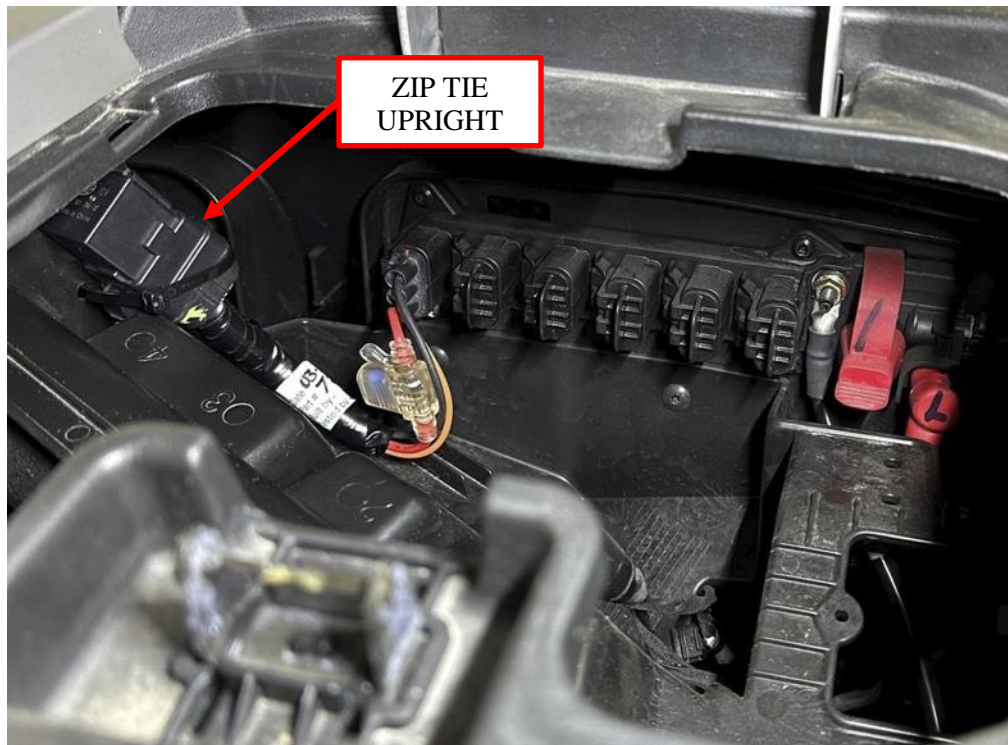

Figure 12: Accessory busbar connection and relay orientation.
13. Plug the chassis harness into the factory accessory port on the busbar. Secure the relay upright as shown in Figure 12. Note: All accessory ports will power the unit, if you are already using any ports for other accessories.